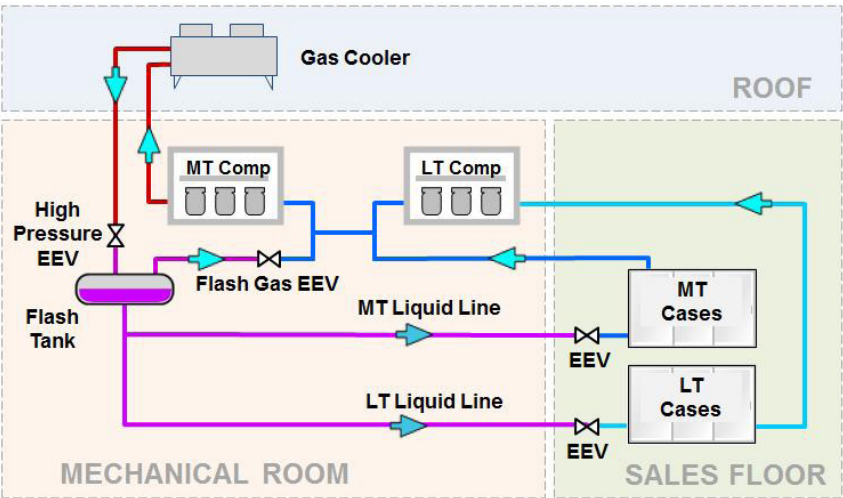

Figure 1-3 . Schematic of a CO2 Transcritical Booster Refrigeration System
- The cycle is then repeated. Figure 1-3 displays a schematic of this cycle.